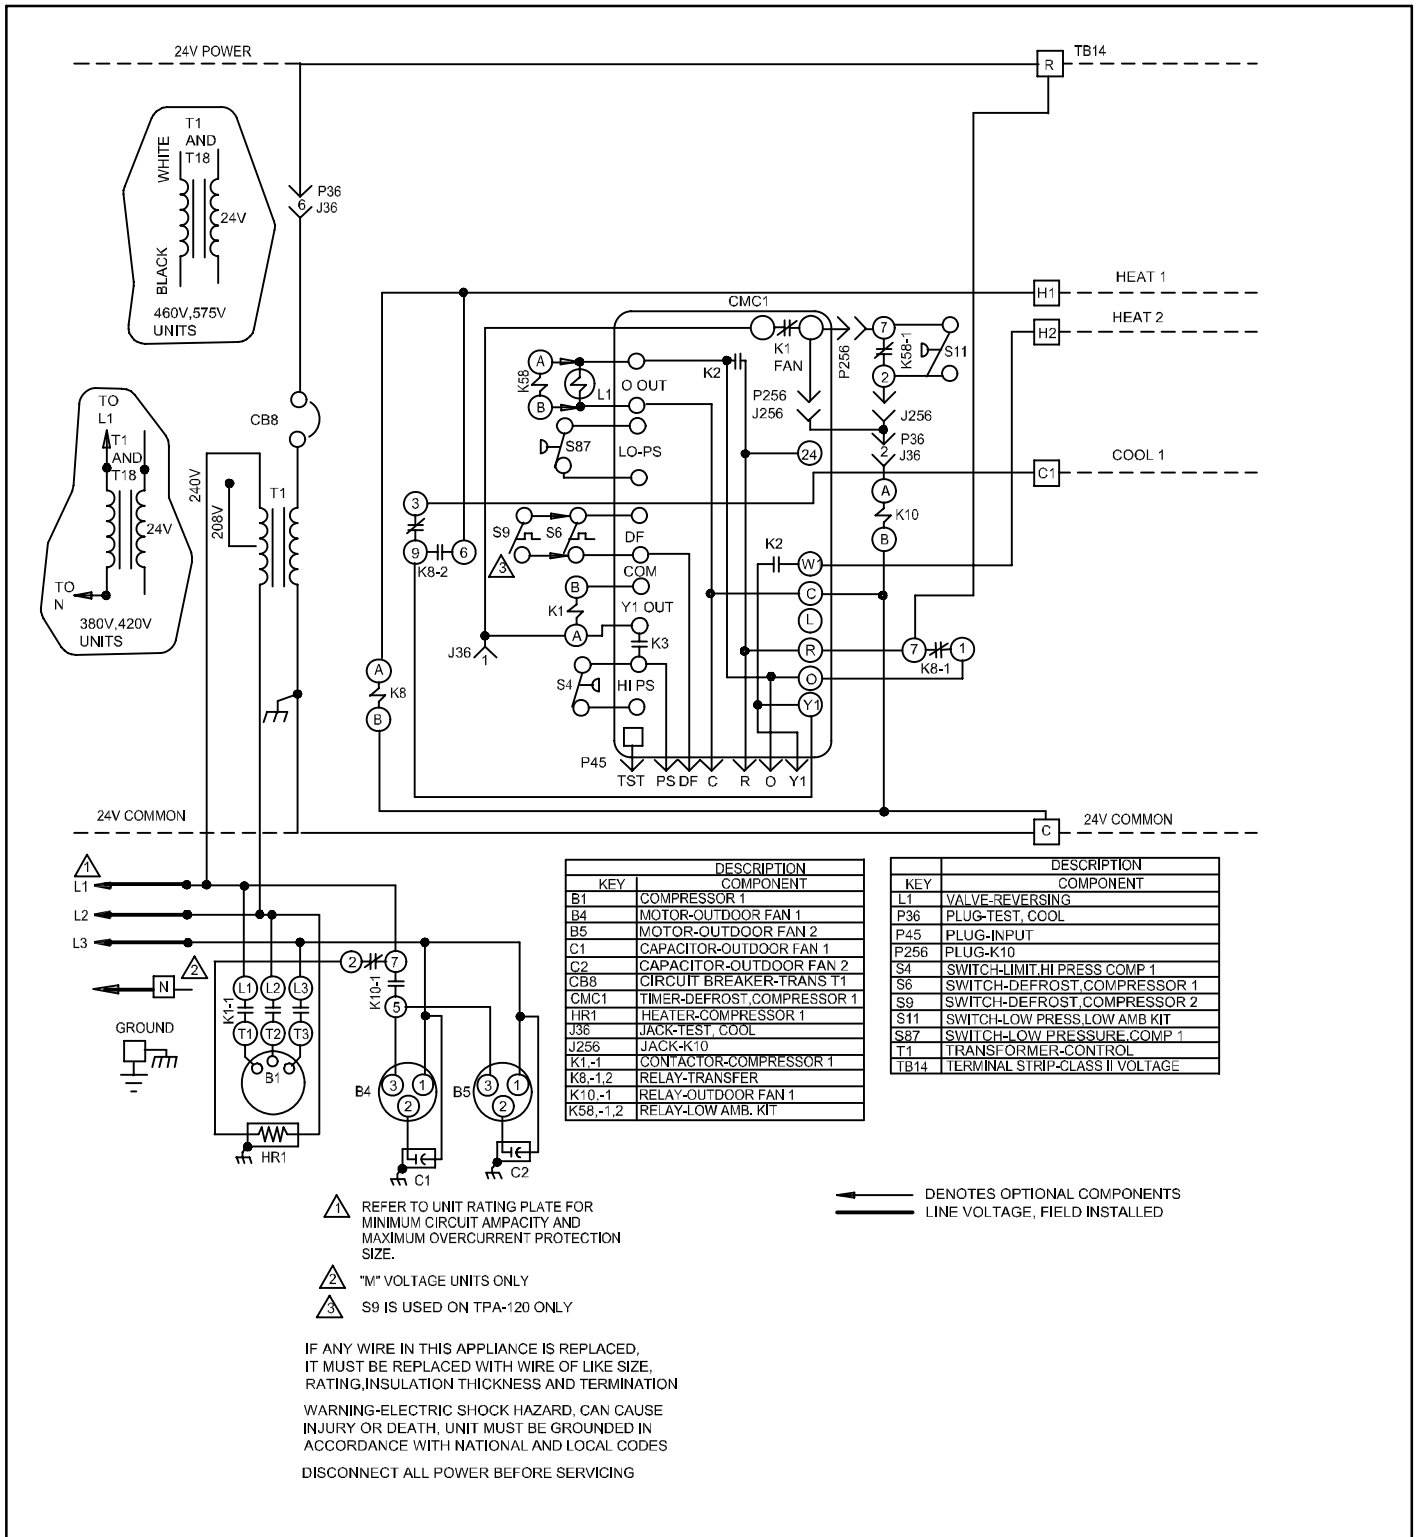

Figure 3. TPA090S4S and TPA120S4S G, J, M, and Y Voltages) Typical Wiring Diagram
- C** Make control wire connections using field provided wire nuts. See figure 3 for connections requirements.